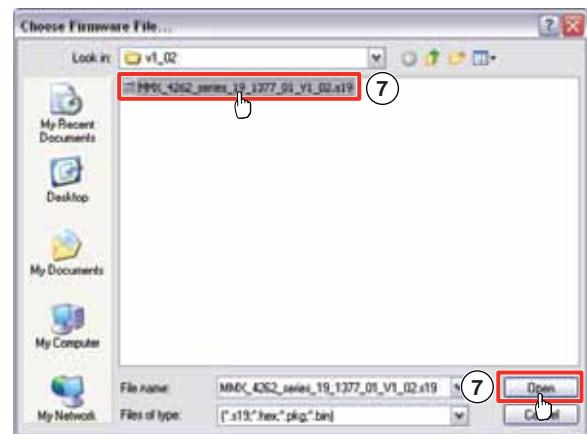

Figure 4-13 — Choose Firmware File window
6. Select the MMX and click **File > Open**. The Choose Firmware File screen appears (figure 4-13, on the next page).